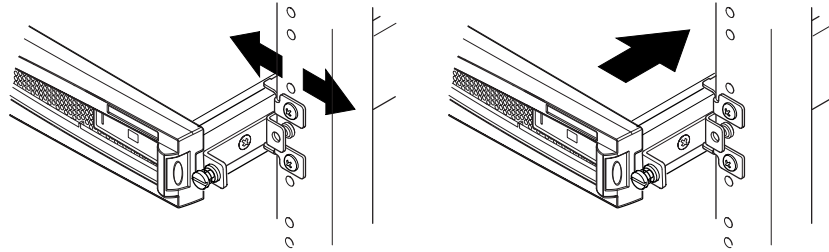

FIGURE 5-8 Adjusting the Slide Mounts and Screwing the Server Into the Rack
- 8. Align the server so that the thumbscrews on its sides fit into the slide mounts in the rack (see FIGURE 5-8).**